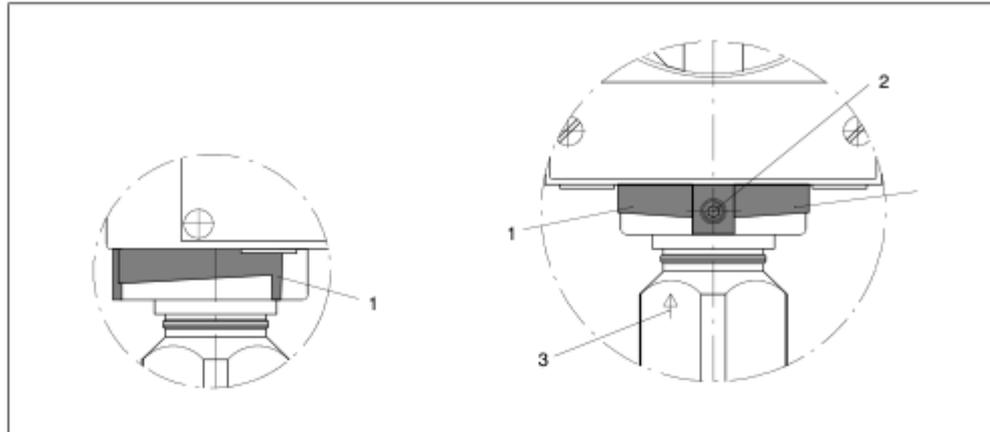

Figure 33 Range of rotation of the measuring cell (in pressure and absolute pressure transmitters of the pressure series)
Only limited rotation is permitted! The range of rotation (1, Figure 33, page 88) is marked at the base of the electronics housing, there is an orientation mark (3) on the neck of the measuring cell which must stay within the marked area when rotating.